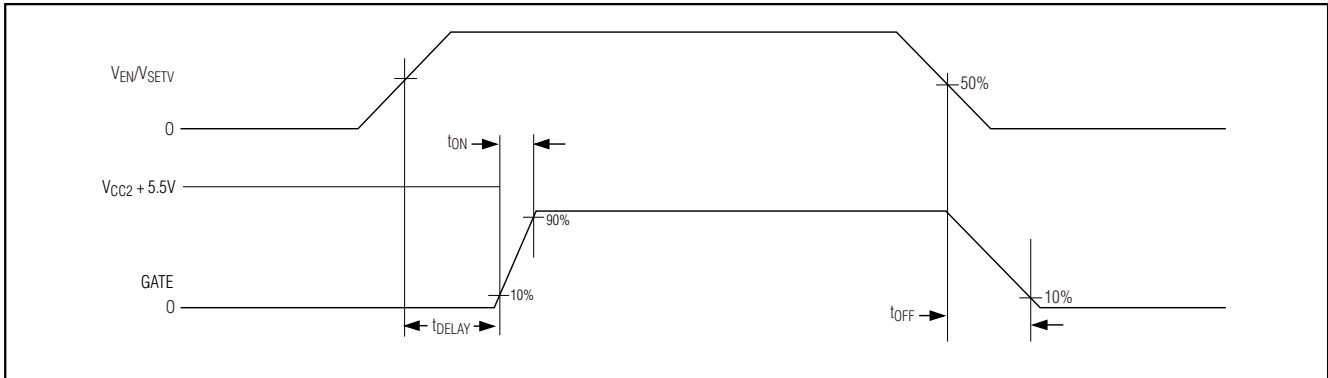

Figure 3. Timing Diagram
The MAX6819 offers a logic-compatible enable input (EN) that allows digital devices to control sequencing. When the TTL/CMOS-compatible EN input is logic low, the GATE output is low. When the EN input is logic high (and SETV is above the monitor threshold), the GATE output is enabled after an internally fixed 200ms delay. For a logic controlled sequencer when voltage monitoring is not desired, connect SETV to  $V_{CC1}$  or  $V_{CC2} > 0.62V$  (Figure 3).